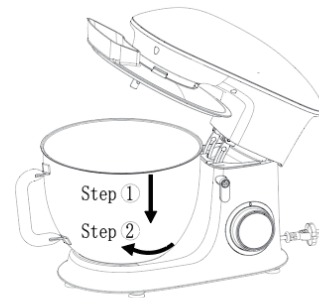

FIG3
3. Place the mixing bowl into its holding device(Step①) and turn the bowl clockwise until it locks into place(Step ②). (FIG3)